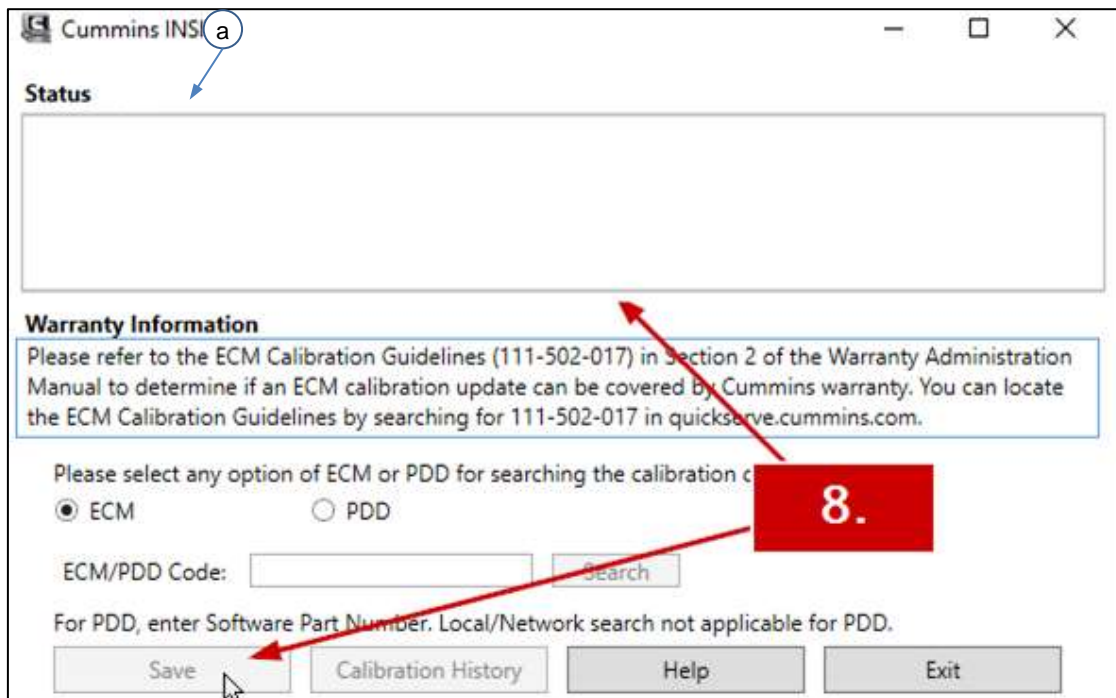

Figure 11.
Step 8: Wait for a “Successfully found (CAL ID tba)” message to appear in the status box. When the desired calibration is found, click “Save” and proceed to Step 9. Figure 11